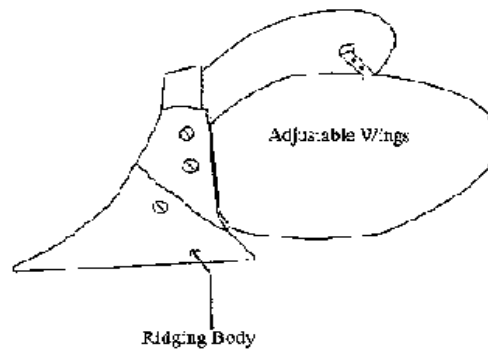
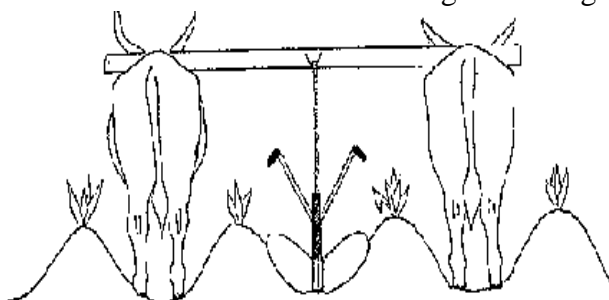
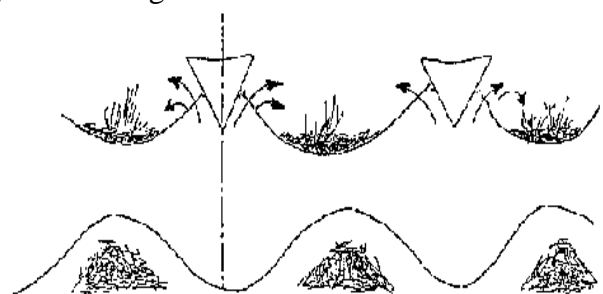

fig 5: The big adjustable Ridger
fig 6: For reridging or weeding, the adjustable ridger is attached to the long yoke
fig 7 : Split the old ridges after the cultivation season and incorporate organic matter in the soil
- **The ridger** (*fig. 5*): This is the most important tool. It is used to prepare the furrows. Ideal to cover the tubers and roots (*fig. 6*), avoids water stagnation. It also facilitates the burial of organic matter (*fig. 7*), sowing, harvesting and reduces the spread of disease, weeds. When cropping on ridges, you do not have to plow after harvest. You use your stopper to divide the old ridges and cast new.